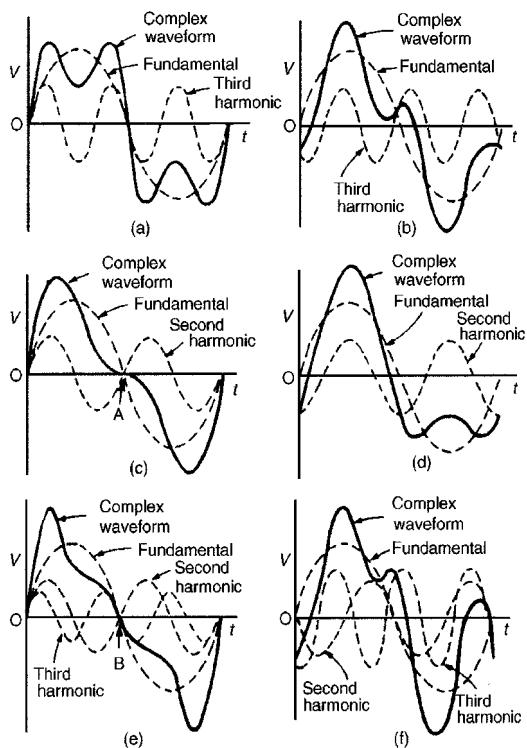

Figure 10.22
- (ii) A complex waveform comprising the sum of the fundamental and a third harmonic of about half the amplitude of the fundamental is shown in Fig. 10.22(a), both waveforms being initially in phase with each other. If further odd harmonic waveforms of the appropriate amplitudes are added, a good approximation to a square wave results. In Fig. 10.22(b), the third harmonic is shown having an initial phase displacement from the fundamental. The positive
and negative half cycles of each of the complex waveforms shown in Figures 10.22(a) and (b) are identical in shape, and this is a feature of waveforms containing the fundamental and only odd harmonics.
- (iii) A complex waveform comprising the sum of the fundamental and a second harmonic of about half the amplitude of the fundamental is shown in Fig. 10.22(c), each waveform being initially in phase with each other. If further even harmonics of appropriate amplitudes are added a good approximation to a triangular wave results. In Fig. 10.22(c), the negative cycle, if reversed, appears as a mirror image of the positive cycle about point A. In Fig. 10.22(d) the second harmonic is shown with an initial phase displacement from the fundamental and the positive and negative half cycles are dissimilar.
- (iv) A complex waveform comprising the sum of the fundamental, a second harmonic and a third harmonic is shown in Fig. 10.22(e), each waveform being initially 'in-phase'. The negative half cycle, if reversed, appears as
a mirror image of the positive cycle about point B. In Fig. 10.22(f), a complex waveform comprising the sum of the fundamental, a second harmonic and a third harmonic are shown with initial phase displacement. The positive and negative half cycles are seen to be dissimilar.
The features mentioned relative to Figures 10.22(a) to (f) make it possible to recognize the harmonics present in a complex waveform displayed on a CRO.